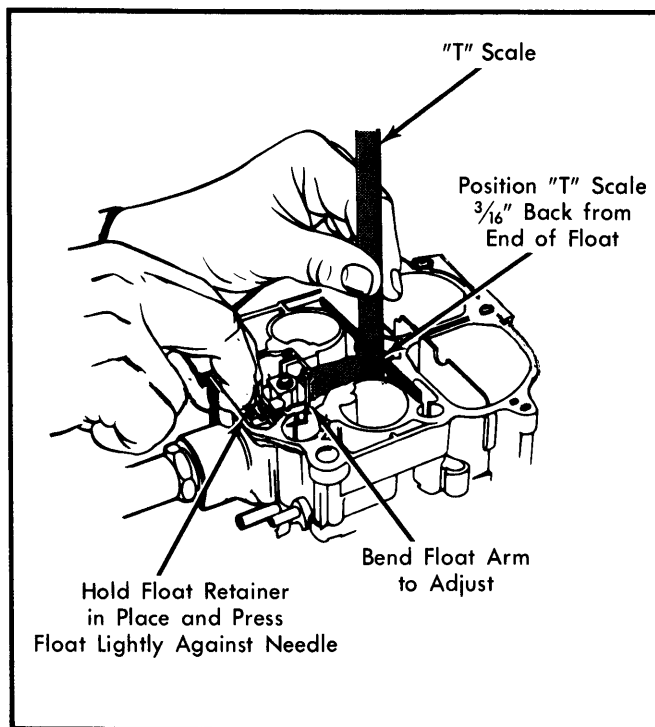

Fig. 2 Adjusting Float Level
- 1) Remove air horn. Remove gasket from main body casting. Hold float retainer firmly in place. See Fig. 2.